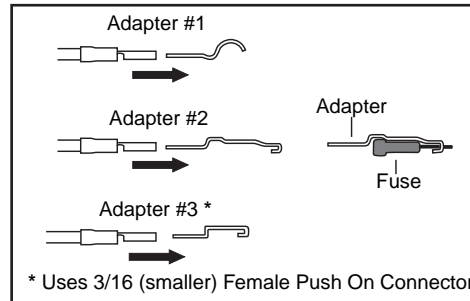

fig. 16
- c. Connection to the fuse terminal will depend on what type of fuse your vehicle uses. If your vehicle uses the barrel type fuse, use adapter #1. If you have the standard spade type fuses, use adapter #2. Many late model vehicles use a smaller spade type fuse which requires adapter #3 (fig. 16). If adapter #1 or #2 are used, it will be necessary to cut off the 1/4" female connector attached to the power wire and crimp the smaller 3/16" female connector supplied with this kit.